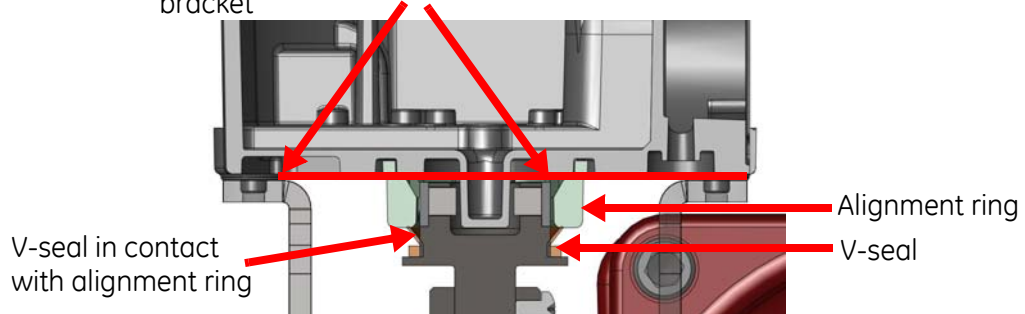

Figure 16 Camflex V-Seal
- Ensure that the V-Seal makes contact with the skirt around the alignment ring on the SVi1000 (Figure 16).